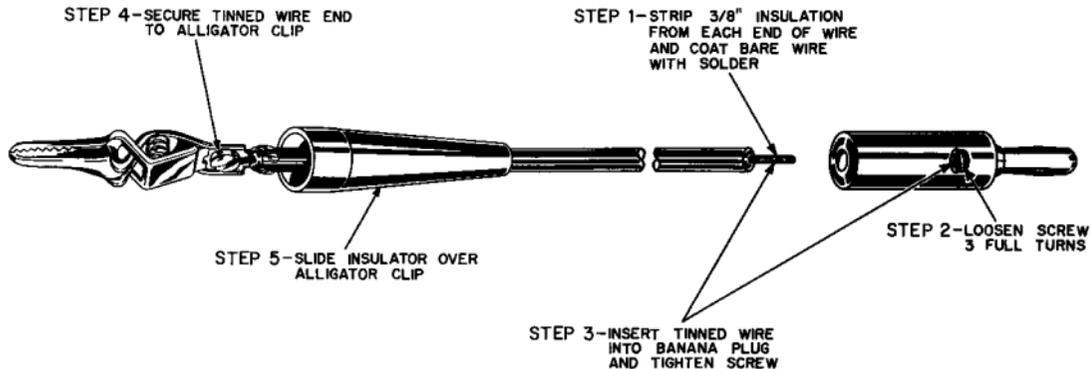

FIGURE 15. HOW TO ASSEMBLE THE TEST LEADS
- () Assemble one red and one black test lead as shown in Figure 15.